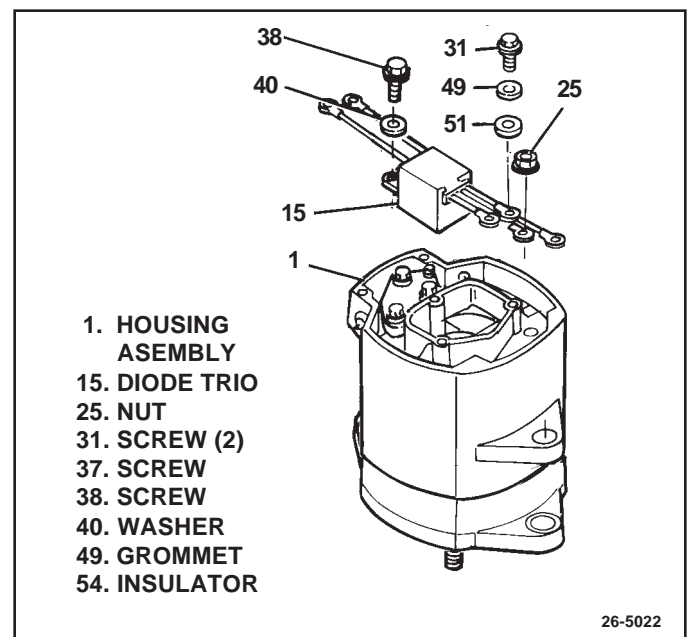

Figure 14. Disconnecting Diode Trio Assembly
(25). (See Fig. 14) Disconnect diode trio assembly's capacitor lead from heat sink by removing screw (31) and insulator (51). If necessary to remove from alternator completely, disconnect diode trio assembly's "R" terminal lead (if used) from inside of "R" terminal by removing nut (25), then remove attaching screw (38) from grounding tab.